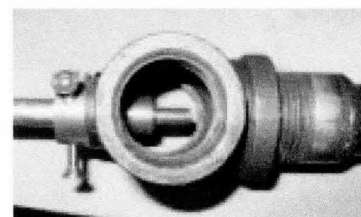

Figure 15: A “T” burner with tip 1” from junction
- (A) burner designs (Bell vs “T” vs sidearm);
- (B) area (in2) of maximum opening: Bell at 2.0 & 3.55 (1.5 vs 2” pipe); “T” at 1.57 & 2.11 (3/4” vs 1” fitting)
- (C) orifice size (0.040 & 0.035) and
- (D) location of the orifice relative to the junction of the bell (or “T”) to the delivery pipe (Fig.15). Due to the scale used, the precision of weighing was 0.5 ounces.